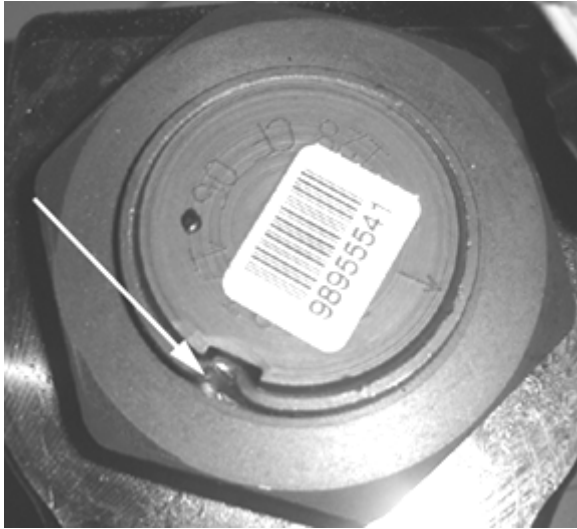

FIGURE 15: FIXING NUT PUNCH MARK
3. Once a steering gear sector shaft nut is installed and torque tighten, using a punch,peen the nut as shown on (Figure 15).
Lock nut with sector shaft using a punch mark into the groove, minimum depth 3/32 inch (2.5mm) (Figure 15).